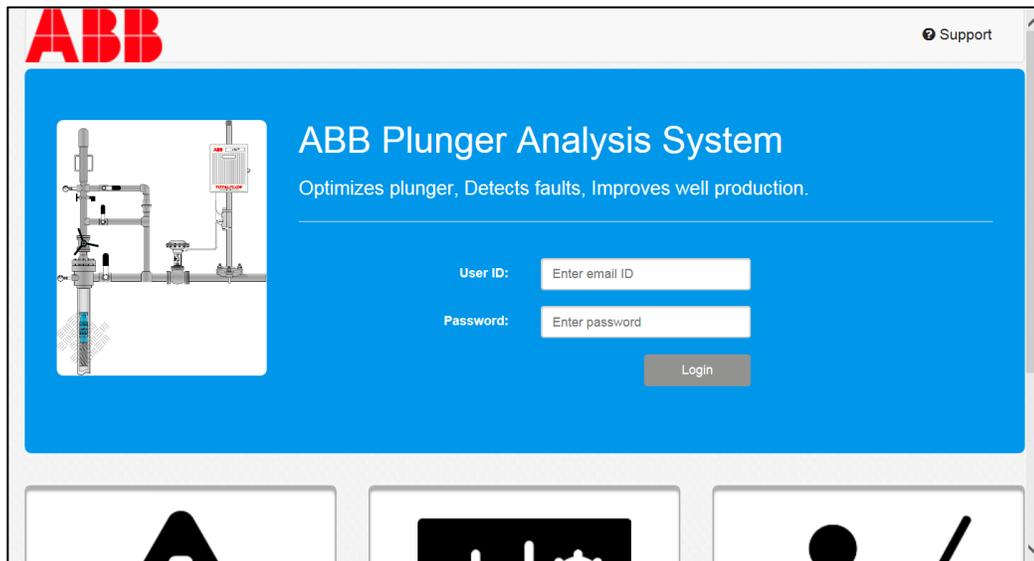

Figure 26: Plunger Analysis System login screen
- 1) If Launch application was selected after the installation was completed, the main screen displays with credential fields for access (Figure 26).